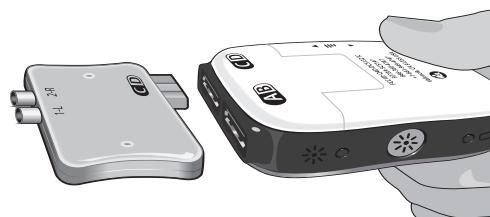

Figure 8: Connection of the ETS Adapter to the External Trial Stimulator 2
3. Plug the ETS Adapter into the External Trial Stimulator 2 socket labeled "CD" (Figure 8).